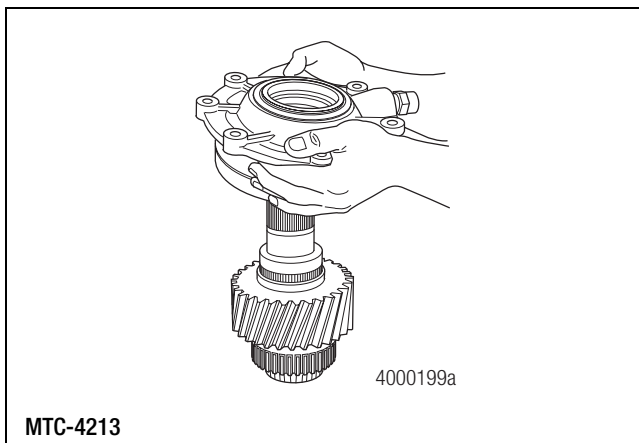

Figure 4.25
4. Lift the front input bearing cage and internal oil pump assembly, if equipped, off the input shaft. Figure 4.25.